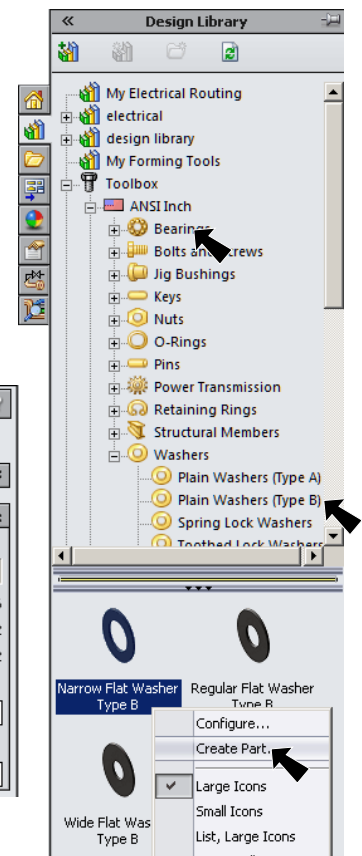

Fig. 5
Step 1. Click the **Design Library** tab  in the Task Pane, **Fig. 5**.
Step 3. In the lower pane, **right click Narrow Flat Washer Type B** and click **Create Part**, **Fig. 5**.